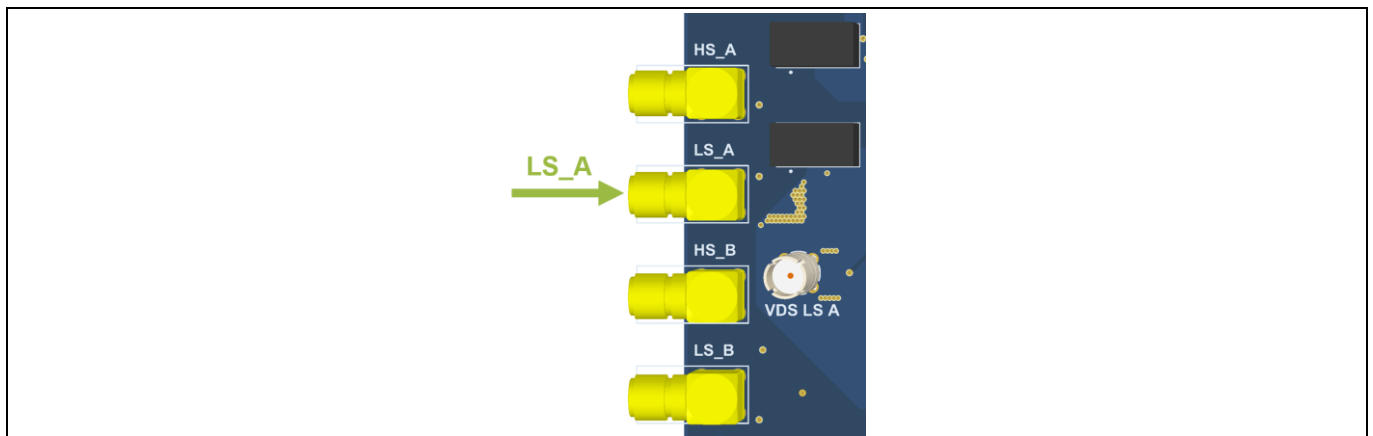

Figure 6 Connection of PWM input signal for “LS_A” MOSFET for single/double pulse switching
2. Connect the PWM input signal. For the basic operation, only one MOSFET (the low-side MOSFET of Leg “A”, called “LS_A”) is supplied with a PWM signal. Figure 6 shows the correct cabling to operate the low-side MOSFET of HB “A”